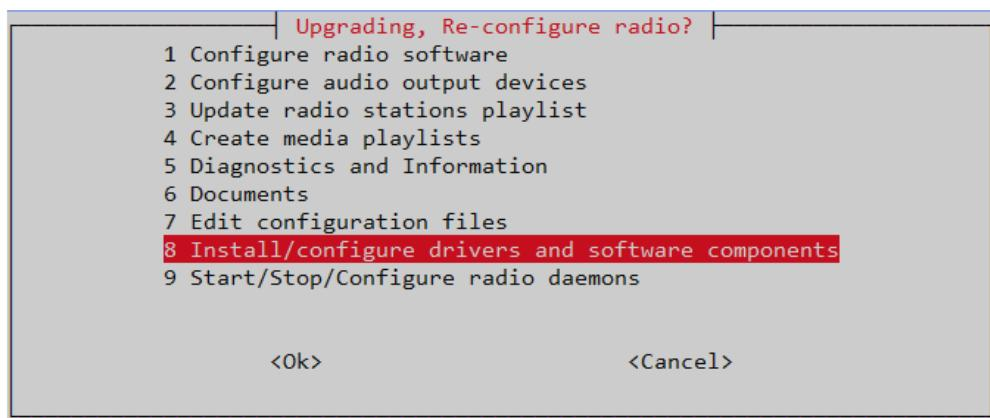

Figure 193 The radio-config menu
- Select option **6 Documents and Tutorials** from the **radio-config** menu shown in *Figure 193 The radio-config menu* on page 134.